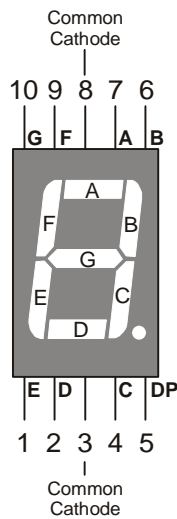
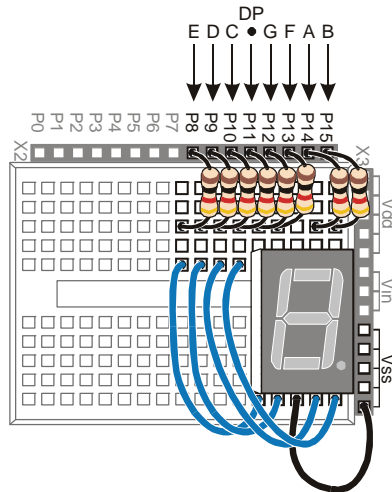

Figure 6-10
Figure 6-12
Figure 6-11 shows the schematic and Figure 6-12 shows the wiring diagram for this BASIC Stamp controlled 7-segment LED display example.
- ✓ Build the circuit shown in Figure 6-11 and Figure 6-12.
**Schematic and pin map:** If you are trying to build the circuit from the schematic in Figure 6-11 without relying on Figure 6-12, make sure to consult the 7-segment LED display's pin map, shown here again in Figure 6-10 for convenience.
Be careful with the resistors connected to P13 and P14. Look closely at the resistors connected to P13 and P14 in Figure 6-12. There is gap between these two resistors. The gap is shown because pin 8 on the 7-segment LED display is left unconnected. A resistor connects I/O pin P13 to 7-segment LED display pin 9. Another resistor connects P14 to 7-segment LED display pin 7.